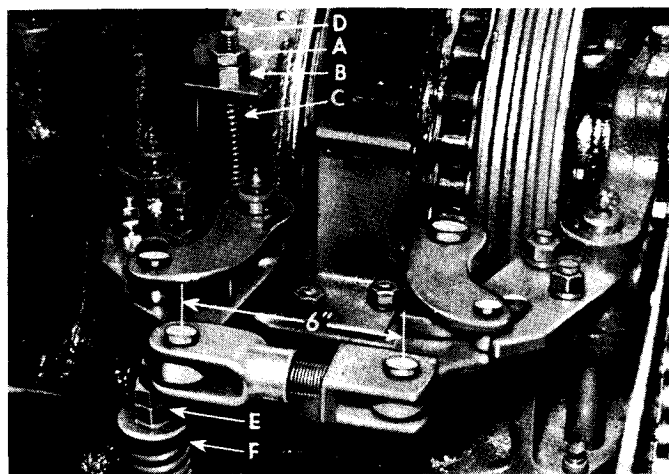

FIG. 7b
1. Check adjustment of reach rod between clutch cams. (Dimension should be 6 inches as shown in Fig. 7b.)
The boom hoist brake band is set by spring "F" which is adjusted at the factory for correct load. When the brake will no longer hold properly, when the boom hoist lever is in neutral, take up on the brake band as follows: (See Fig. 7b)
If the band will not hold without compressing spring "C" excessively, remove the band and clean it as follows (See Fig. 7b):